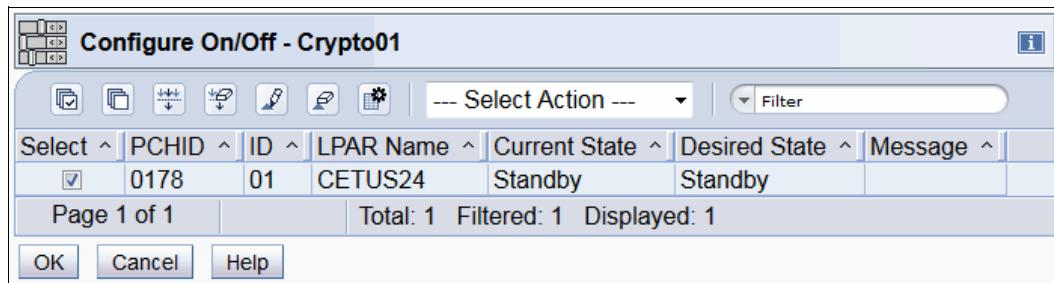

Figure 10-23 Config On/Off (Standby)
6. Select the cryptographic coprocessor channel number that you want, and then click **Select Action** → **Toggle** to switch from Standby to Online (Figure 10-23). If you want multiple cryptographic channels at the same time, select **Toggle All On**.